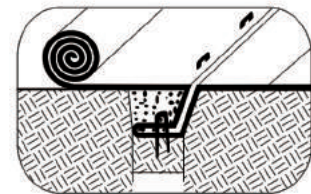

Fig. 5
- Fold and secure the matting snugly into all transverse check slots. Lay the matting in the bottom of the slot and then fold back against itself. Anchor through both layers of blanket at 6" intervals then backfill and compact soil (Fig. 5).